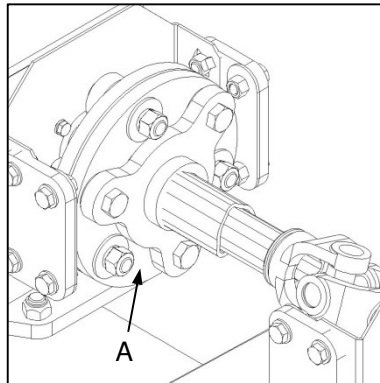

Fig. 6
- ✔ Inspect the rubber diaphragm couplings and replace any diaphragms (Fig. 6-A) which display evidence of distortion, splitting or cracking.
- ✔ Gaan die rubberdiafragmakoppelings na en vervang enige diafragmas (Fig. 6-A) wat tekenen van verwringing, skeure of krake toon.